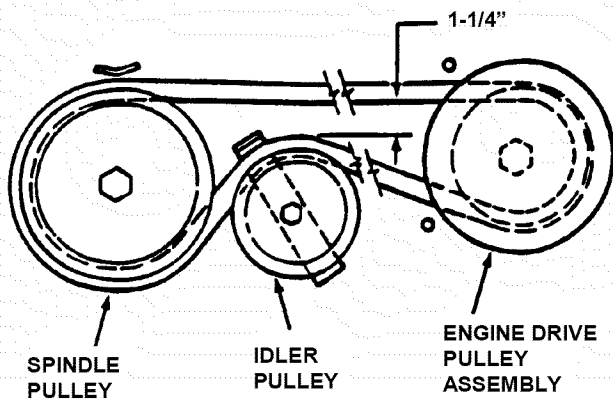

FIGURE 4.5
3. Place deck cutting height in the 3rd position. Measure the belt spacing at idler pulley. The distance should measure 1-1/4" but no less than 1". See Figure 4.5.